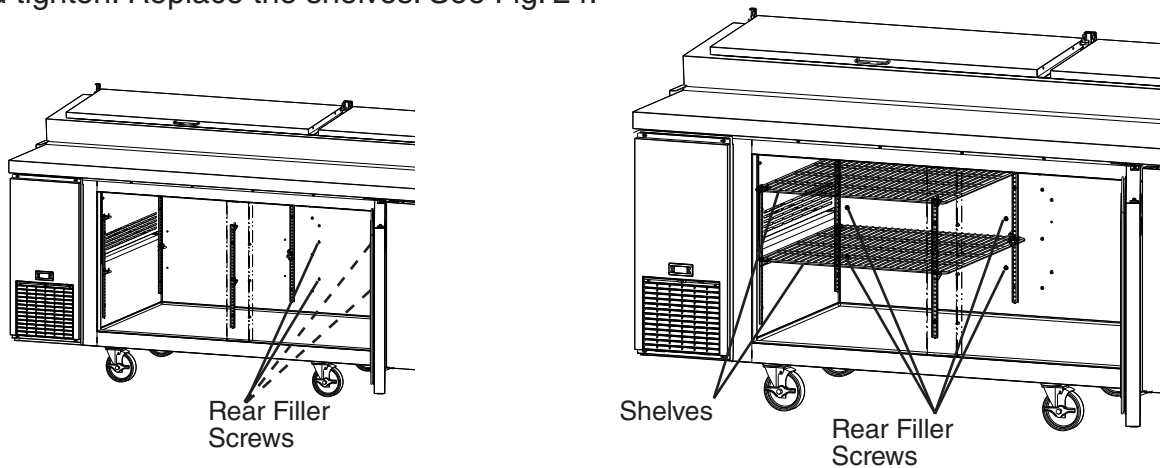

Fig. 24
- 9) Remove the drawer cartridge frame rear filler screws from the new location (current door location). Place the drawer cartridge frame filler screws in the new door location and tighten. Replace the shelves. See Fig. 24.